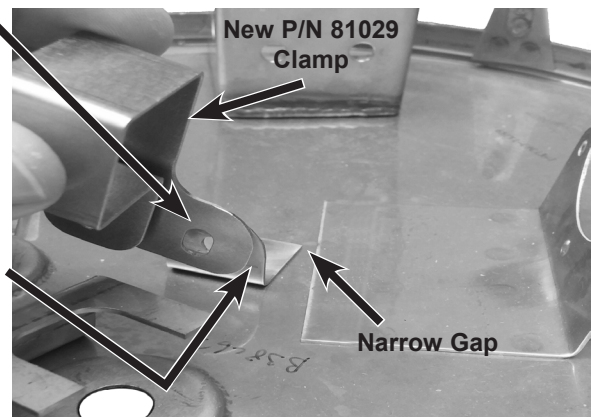

Fig. B-5 Installing New Clamp on base with narrow bracket gap (components removed for clarity)
- (b) Attachment through clamp extension hole. Refer to Figure B-5 (narrow gap).